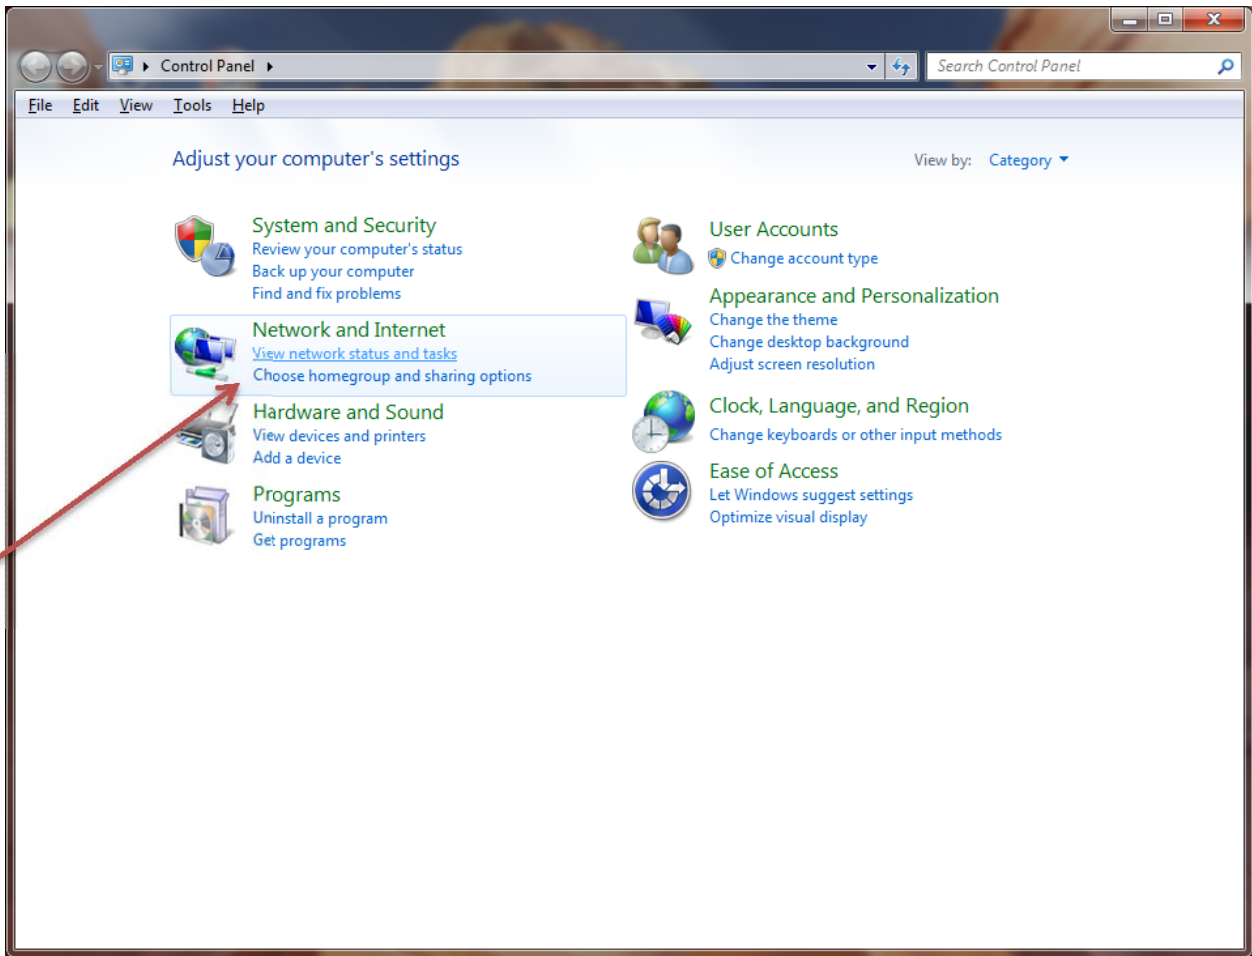

Figure 36 - Control Panel
- From the Control Panel under the “Network and Internet” Icon click on the “View network status and tasks”. See Figure 36. You may need to select the Control Panel “Category” view to see the picture similar to the Figure 36.